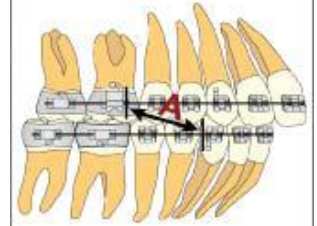

Figure 3
- Measure from the distal edge of the lower cuspid bracket to the mesial end of the upper 1st upper molar tube (Figure 3).
- See the chart below for measurement ranges (A) and part numbers.